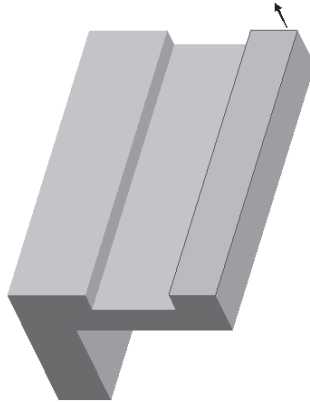

Figure 4-95 Arrow pointing from the sketching plane in the direction of feature creation
- c. Create the second feature, refer to Figures 4-95 through 4-98.
3. Select the top face of the base feature shown in Figure 4-95 as the sketching plane. A yellow arrow that points in the direction of viewing the sketch is displayed on the top face.
4. Choose the **Flip** button to flip the yellow arrow to point in the direction shown in Figure 4-95.